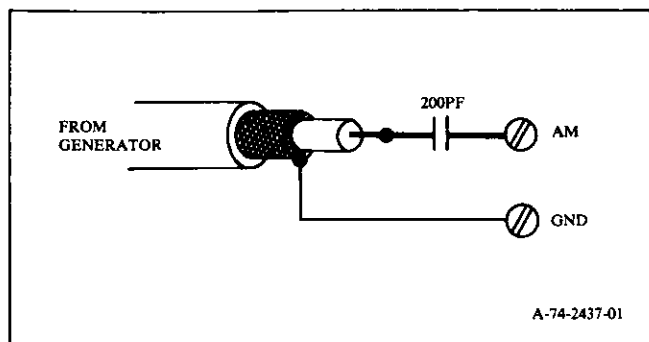

Figure 17—AM Antenna Test
1. Connect generator as in Fig. 17; deviation ± 75 kHz at 400 Hz.